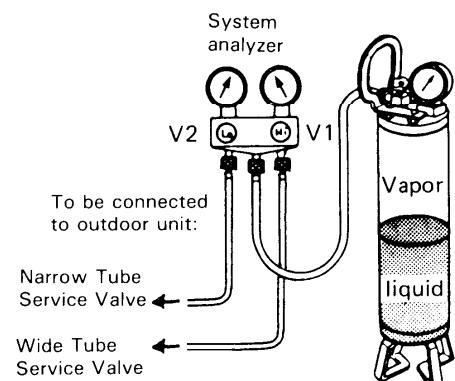

Fig. D-19
- 2) Prepare the system analyzer valve set and connect charging hoses as in Fig. D-19. Be sure to close all valves before connection.